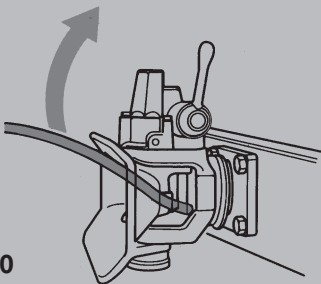

Fig. 10
- Move coupling head up and down with appropriate tool (see Fig. 10):